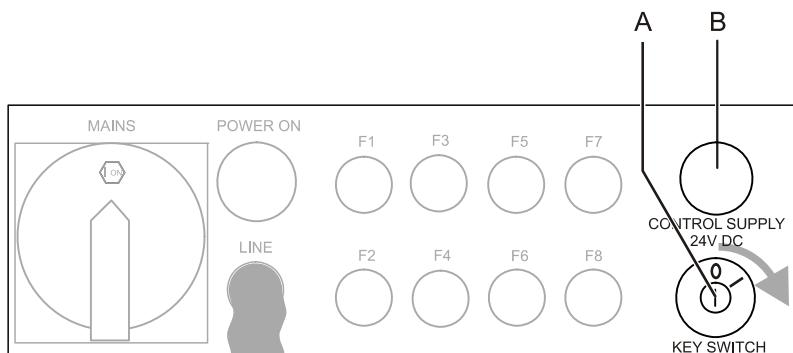

Figure 62: Activating the control voltage
- Insert the key into the key switch (see Figure 62, A) and turn clockwise to the I setting to activate the laser controller.